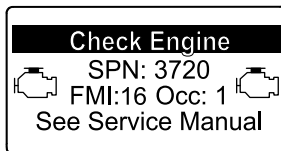

Figure 65
- Engine warning SPN 3720, FMI 16 (Figure 65)